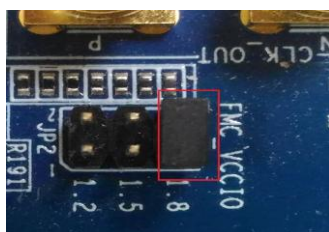

Figure 4-13 Adjust FMC VADJ to 1.8V (default) by short JP2(1.8)
- Make sure the FMC's VADJ is set to 1.8V by short JP2(1.8) as shown in Figure 4-13.